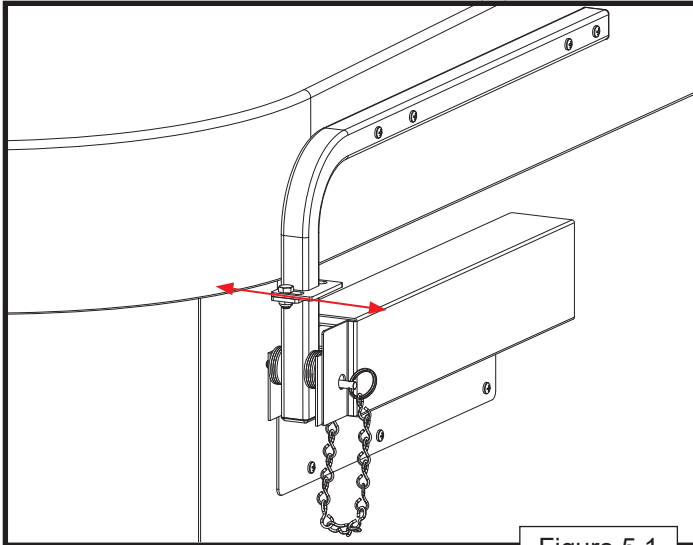

Figure 5.1
1. Space both sides of cover (Left and Right) evenly by moving the cover side to side until all sides are evenly spaced (Figure 5.1).